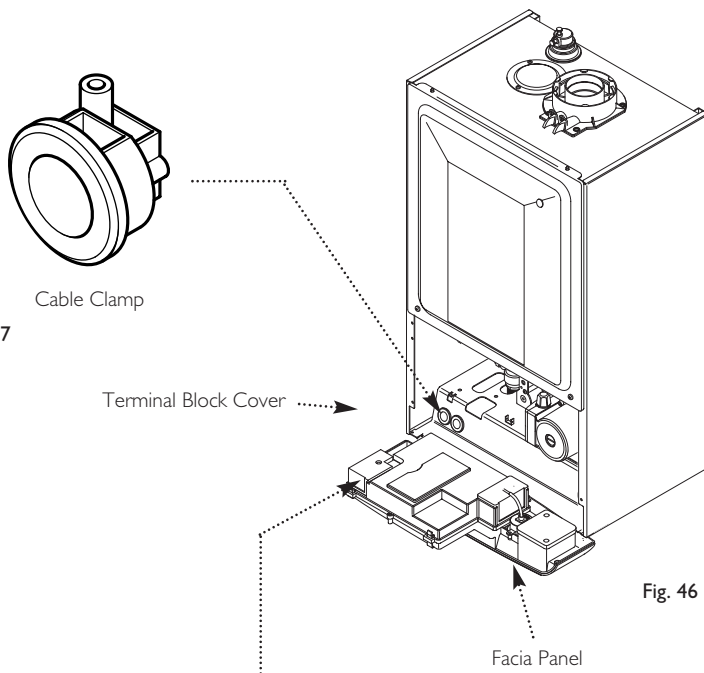

Fig. 46
2. Completely undo the screws securing the fascia panel and hinge it down (Fig. 46).
3. Undo the terminal block cover securing screw and remove the cover (Fig. 46).